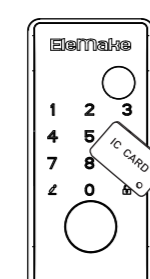

Figure P-3
(4) RF card unlocking (Figure P-3)